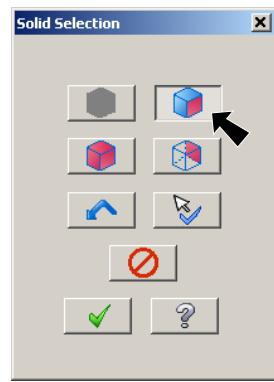

Fig. 42
Step 3. In the Solid Selection dialog box, select **Face**  and unselect others, **Fig. 42**.